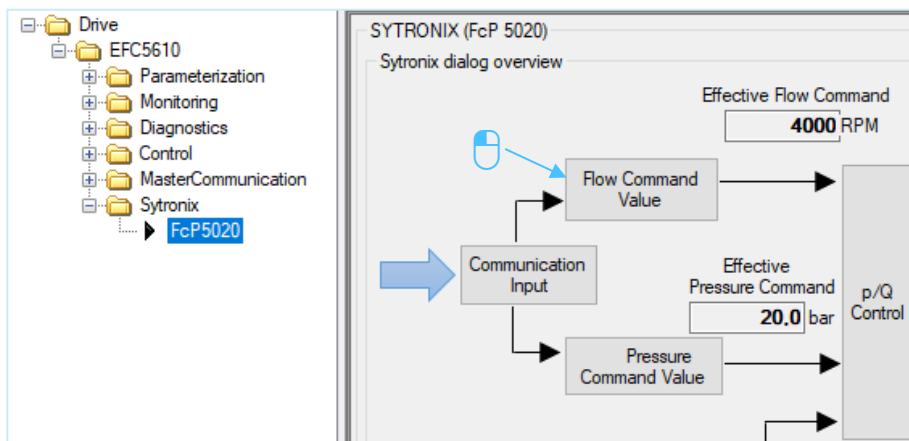

Abb. 26: Flow command value fixed 1/2
1. Press "Flow Command Value" (see Abb. 26: Flow command value fixed 1/2).